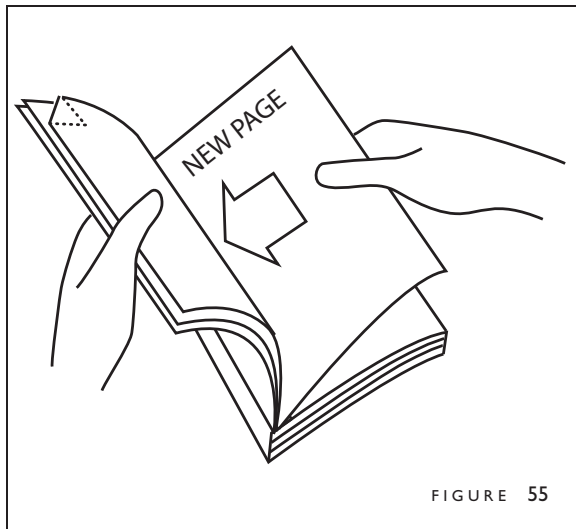

FIGURE 55
3. Behind this page insert the new page you want to add (figure 55). Slip it in as far as you can. When you're sure it's straight, close your document.